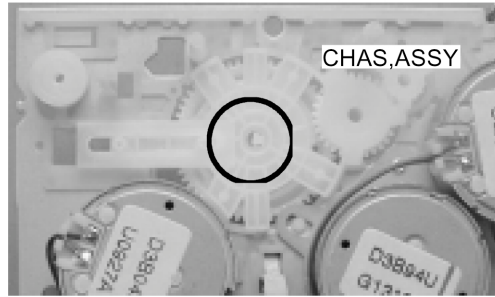

Fig.8-6
- 4) Disengage the detent (circled in Fig. 8-6) of the GEAR CAM from the rear side of the CHAS ASSY and remove the GEAR CAM.